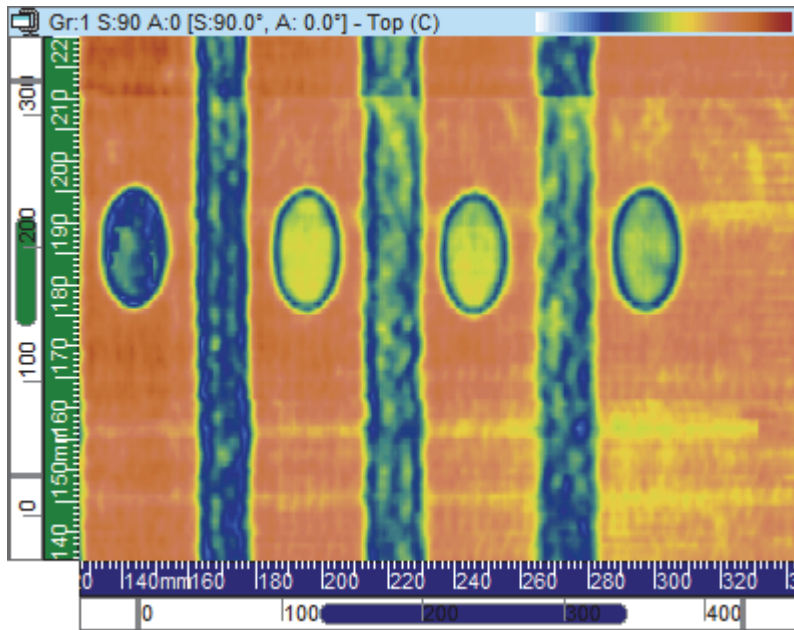

Figure 3-23 Example of Top (C) view
The Top (C) view (Figure 3-23 on page 81) is a two-dimensional graphical representation of the recorded data displayed as a top view of the test specimen. One of the axes is the scan axis; the other is the index axis. The position of the displayed data is related to the encoder positions at the moment of acquisition. At a given position on the projected image, the color corresponds to the maximum amplitude at this position as detected in the considered true-depth range.